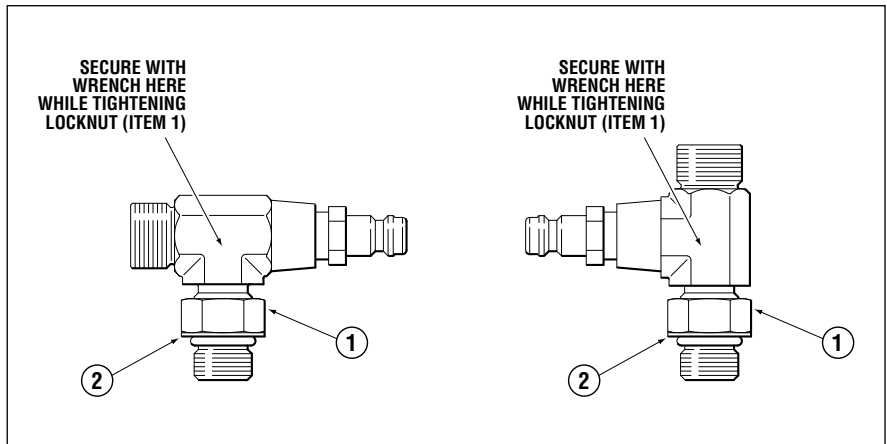

Figure 21.
- 1 Back off lock nut (item 1, figure 21), counter-clockwise, until it stops.
- 2 Thread fitting into cylinder body until fitting washer (item 2, figure 21) contacts the face of the cylinder port. Tighten hand tight, DO NOT TORQUE FITTING INTO GLAND.
- 4 While holding fitting with a wrench, tighten the locknut (item 1, figure 21) and torque to 40–43 ft-lb.
Failure to properly tighten the locknut (item 1, figure 21) may lead to loss of steering control. Loss of steering control may result in unpredictable boat behavior, collision with an obstacle and/or ejection from vessel, leading to property damage, personal injury and/or death.